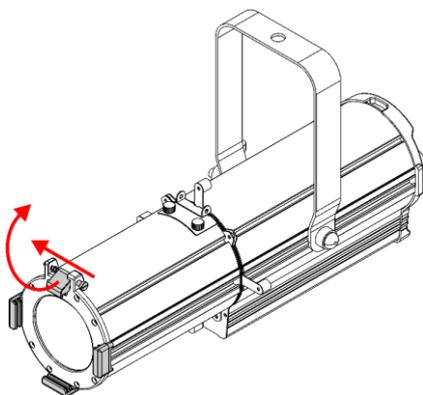

Fig. 06
- 01) Push the **spring-loaded screw (07)** and at the same time lift the **color frame clip (06)** and flip it backwards (see Fig. 06).